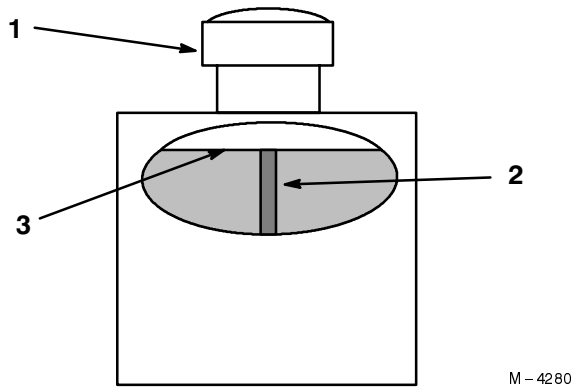

Figure 51
2. Clean area around filler neck of hydraulic tank (Fig. 51).
3. Remove cap from filler neck. Look inside to check if there is fluid in the reservoir. (Fig. 51).
Note: Fluid level should be to the top of the baffle when fluid is warm (Fig. 51).